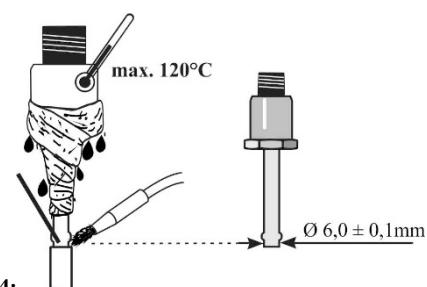

Fig.4:
**Braze Connections: (Fig. 4)****PT5-xxT Series**